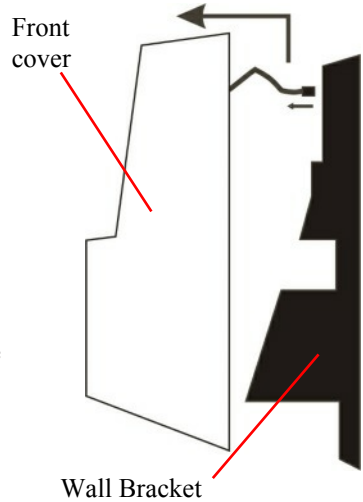

Figure 2 Removing Cover
1) Unlock the front cover of the meter and lift upwards slightly and away from the wall bracket (see Figure 2). Unplug the cover flying lead from the wall bracket and remove front cover.